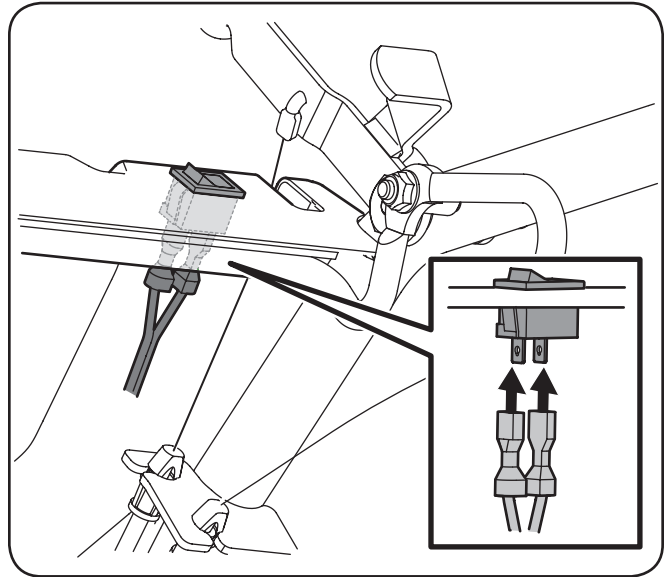

Figure 3-4
10. Route the wire harness up the back of the handle and connect the harness to the ON/OFF switch on the underside of the panel. See Figure 3-4.